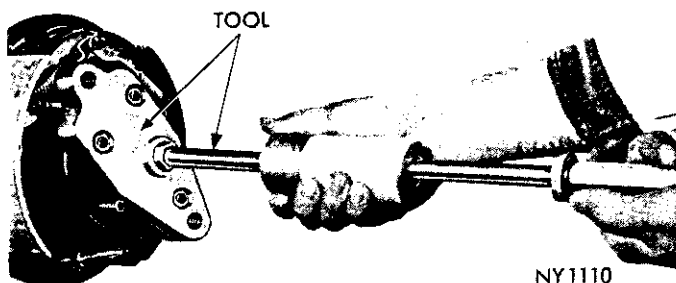

Fig. 2—Removing Axle Shaft
(1) With wheels removed, remove clips holding brake drum on axle shaft studs and remove brake drum.
(2) Disconnect brake lines at wheel cylinders.
(3) Using access hole in axle shaft flange, remove retainer nuts.
(4) Attach axle shaft remover tool C-3725 to axle shaft flange and remove axle shaft. Remove brake assembly (Fig. 2).
(5) Remove axle shaft oil seal from housing.